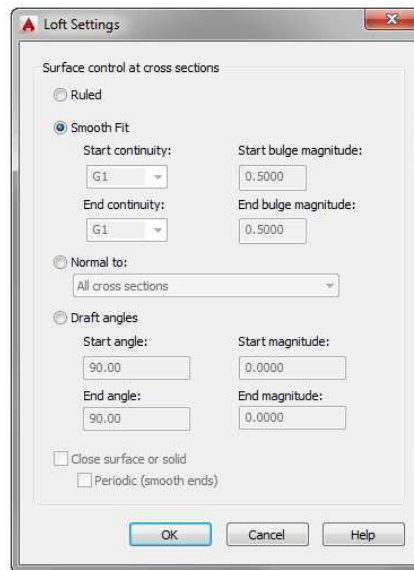

FIGURE 17.5: The Loft Settings dialog box
10. Verify that the **Smooth Fit** option is selected in the **Loft Settings** dialog box that opens, shown in Figure 17.5.